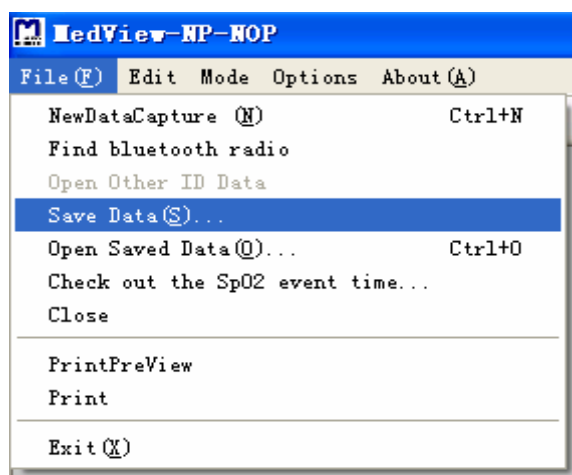

Figure 8-5
By choosing the “Save data (S)” menu as shown in Figure 8-5 you can save the current user's data information to data document. Three extensions are supported, .dat. .txt. and .xls.